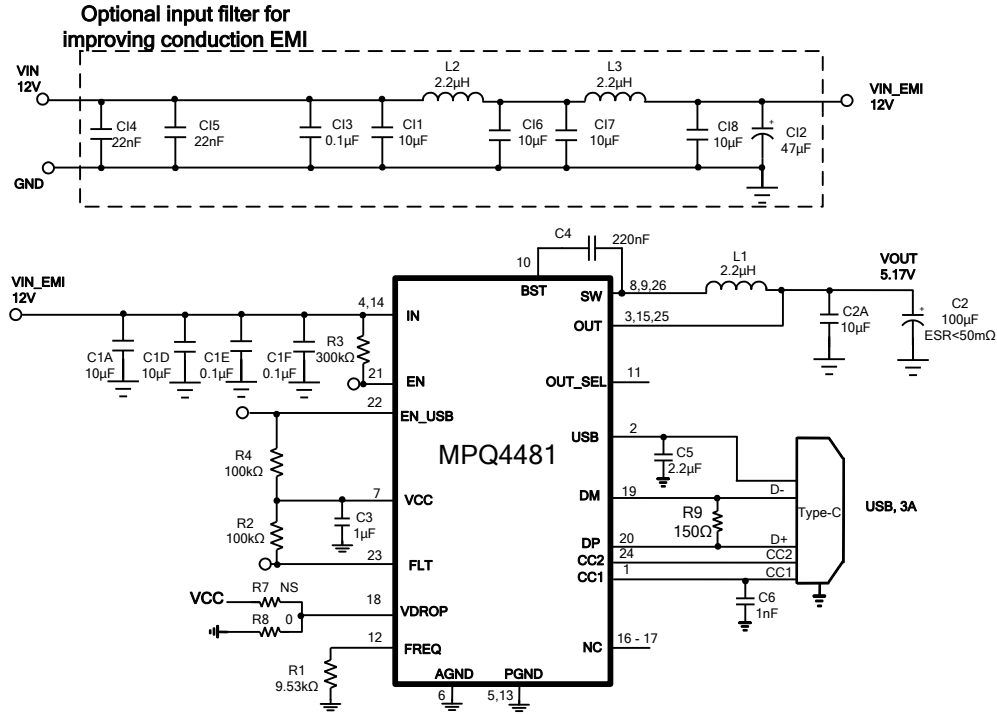

Figure 12: USB Type-C 5V/3A DFP Port (10)
- 9) The recommended layout is based on the Typical Application Circuits in Figure 12 and Figure 13.